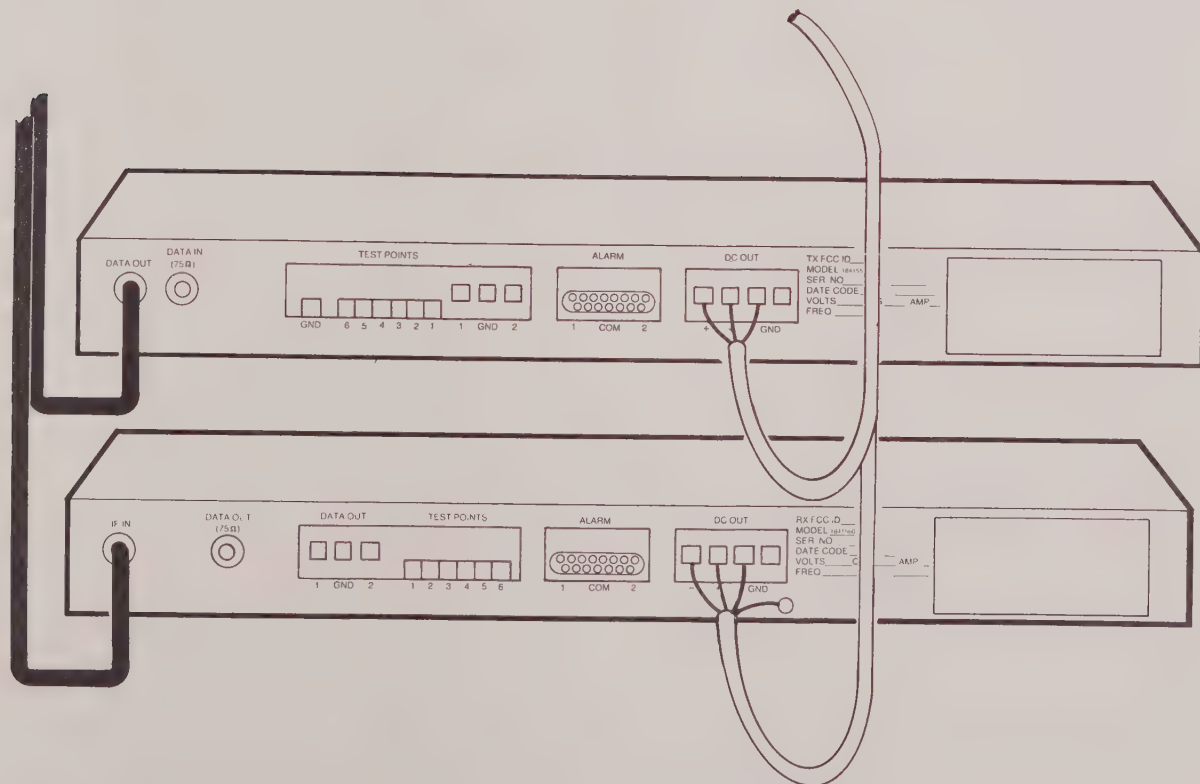

Figure 3-9. One End of Duplex Link (Unprotected)
**DUPLEX (UNPROTECTED) SYSTEMS.** RF and power interconnection cable connections between the indoor Transmitter and Receiver Digital Interface Units and the outdoor Antenna/Duplex RF Assembly for a duplex (unprotected) system are shown in Figure 3-9.